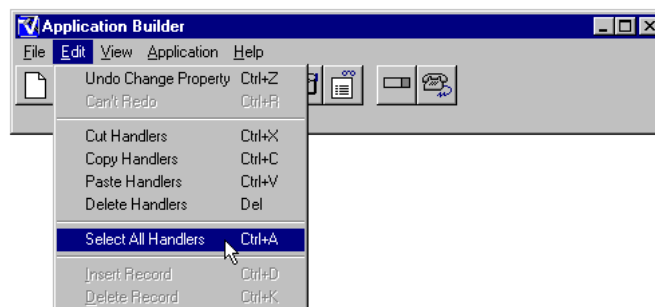

Figure 3-52 Edit Menu - Select All Handlers
46. Select all of the Input Handlers by choosing **Select All Handlers** from the **Edit** menu (Figure 3-52), typing **Ctrl+A**, Shift-clicking each Input Handler, or dragging a rectangle around all of the Input Handlers.